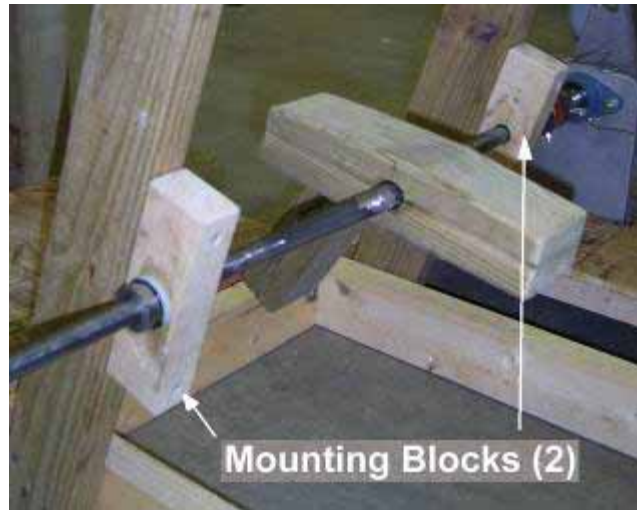

Figure 4: Mount pedal shaft blocks to the frame
2. mounting the pedal-powered shaft to the frame (See Figure 4),
1. Place the pedal shaft with attached pedals (two) and attached mounting blocks (2) against the back of the two front supports of the pedal-powered mounting frame (See Figure 4).
3. While holding the pedal shaft in place, secure the pedal shaft mounting blocks (2) to the mounting frame (using the provided screws). **NOTE:** Holes are pre-drilled in each of the blocks for the screws.
2. Mount the pedal-powered shaft to the frame (Follow the instructions on page 5 and see Figure 4).